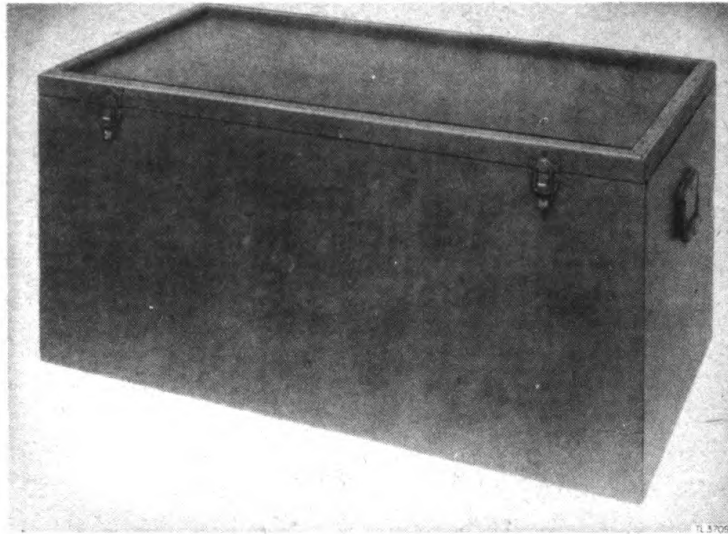

Figure 9. Chest CH-273.
Chest CH-273 (fig. 9) is a wooden chest 42 $\frac{1}{2}$ inches long, 22 $\frac{1}{4}$ inches wide, and 20 $\frac{3}{4}$ inches high. Two of these chests are furnished to store the smaller components of Test Set AN/MPM-3.
b. Chest CH-273. Clean the chests (fig. 9) periodically to prevent dust and dirt from accumulating on the test equipment stored in them. Scrape off any broken or cracked paint and repaint the affected area. Use sandpaper to remove the paint and to prepare the surface for the new coat of paint.
(1) Inspect the cords regularly for worn or damaged insulation. If any such places are found, repair or replace the damaged cord immediately
(2) When using the test equipment, arrange it so that the cords are not resting on any sharp objects or stretched tight over the edge of the bench or any test equipment. Make no sharp bends in the cords, since these may result in damage to the wire or insulation.